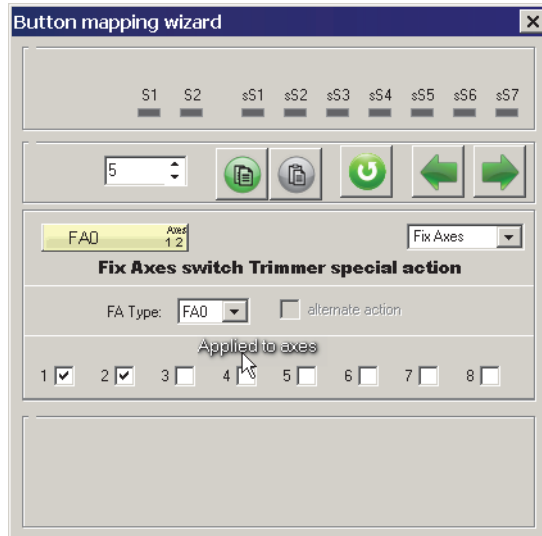

Fig. 4.49.
**Button mapping wizard** dialog for axis fixation functions is shown on Fig. 4.49.